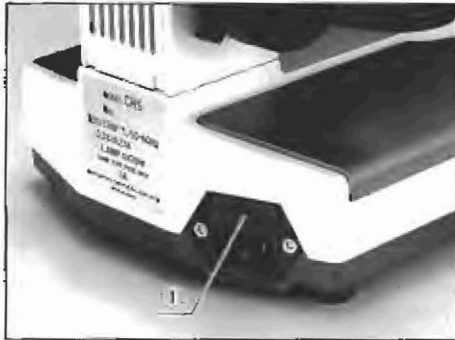

Fig. 13
- 1) The fuse box (1) is located at the back of the microscope base. (Fig. 13)
- 2) Disconnect the power cord from the AC outlet, and remove the fuse box (1) from the base by means of a screw driver. (Fig. 13)